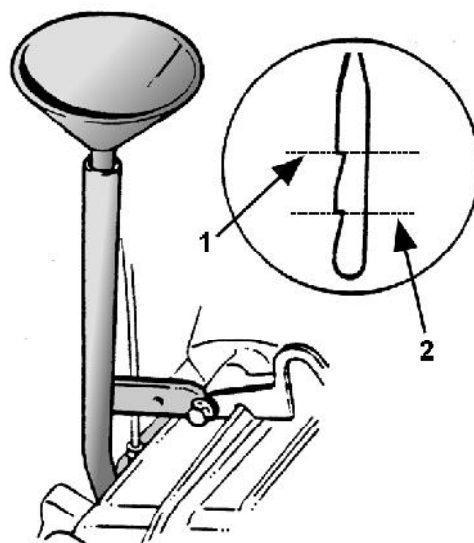

Figure 33
5. If the level is low top up as necessary with the correct CVT fluid through the dipstick tube to bring the oil level to the 'MAXIMUM' (see Figure 33)